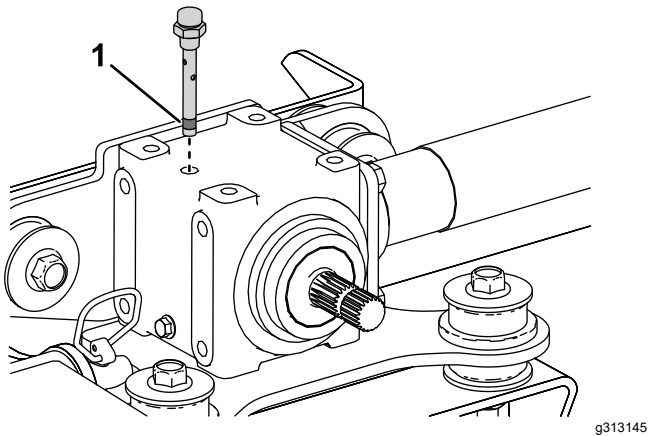

Figure 24
2. Remove the breather plug from the top of the gearbox (Figure 24) and ensure that the lubricant is between the fill marks on the lower part of the breather plug. If the lubricant level is low, add enough lubricant until the level is between the marks.